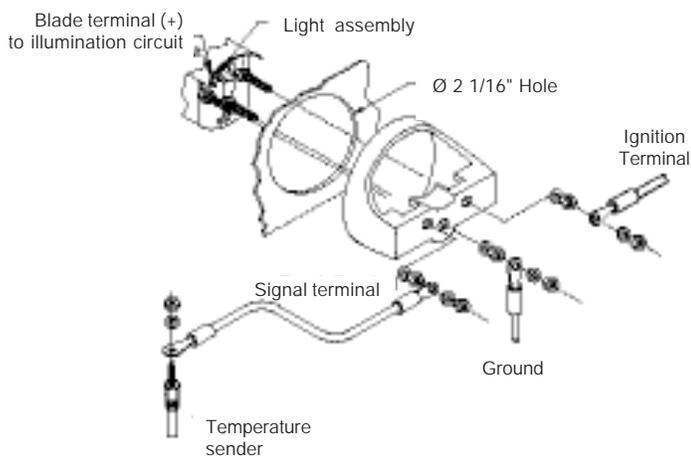

Figure 1
Gauge pod: Gauge will press-fit into 2 1/16" gauge pod and the mounting bracket will not be used. Position gauge in mounting hole. Install mounting bracket, nuts and lock washers in position. (see Fig. 1) Install one brass flat washer, one lock washer and one nut on each stud. Ro-
STEP 4. Run a length of wire from the temperature gauge to the sender unit using the wire supplied with the kit. Bare 1/4" of the end of the wire supplied at the sender unit. Install an eyelet terminal supplied with the kit on the end of the wire and crimp it tightly with a pair of pliers. Install the terminal onto the sender unit stud. Install nut on to the stud and tighten securely. Be sure the terminal does not touch the body of the sender. Tape the wire in position so it cannot touch any hot engine components. Be sure that the base of the sending unit is properly grounded. A sending unit installed in a rubber cooler line is not properly grounded. Improper grounding will cause a false reading. Install another eyelet terminal on the end of the temperature gauge wire. Remove the nut and lock washer from the left-hand stud on the temperature gauge (see Figure 1). Install the terminal onto the stud and install lock washer and nut. Tighten nut snugly. DO NOT OVER-TIGHTEN AS THIS COULD DISTORT BRACKET OR DAMAGE GAUGE.
STEP 5. Run a length of wire from the temperature gauge to the ignition switch or fuse block using the wire supplied with the kit. Bare 1/4" of the end of the wire at the temperature gauge. Install an eyelet terminal on the end of the wire and crimp it tightly with a pair of pliers. Remove the nut and lock washer from the right-hand stud on the temperature gauge (see Figure 1). Install the terminal onto
STEP 7. Run a length of wire from the temperature gauge to the dashboard instrument light wires or terminal board. Bare 1/4" of the end of wire at the temperature gauge. Install the female spade connector furnished and crimp tightly with a pair of pliers. Slip connector onto gauge spade terminal (see Figure 1). Tape or fasten all wires up out of the way from heat or any moving parts to prevent damage.